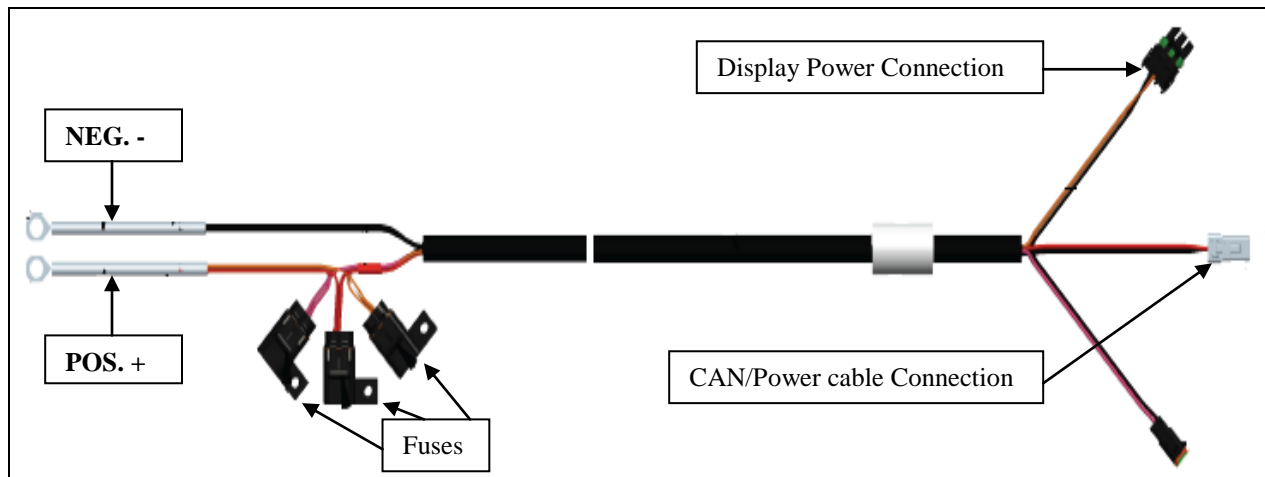
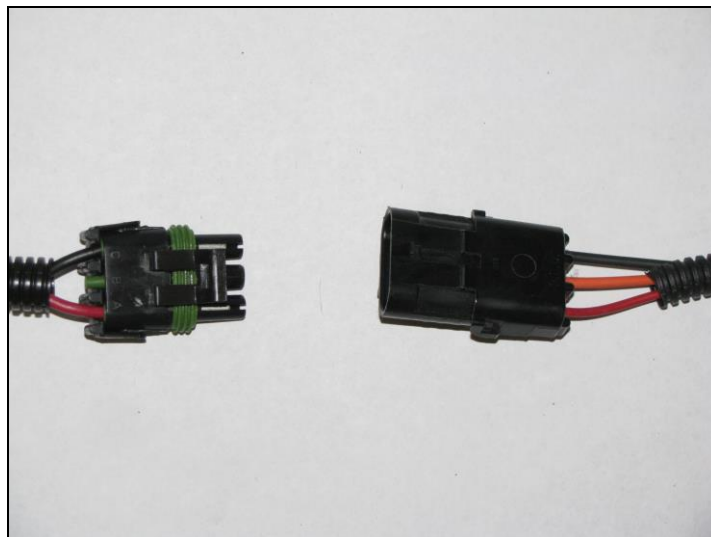

Figure 4. 22ft. power cable
Figure 5. Power cable to display cable
2. Route the cable towards the rear of the tractor cab, and then use the power cable (P/N: 4002016-22) to connect to 12V battery power at power terminals in the cab or at the battery. Insure that the power cable terminals are connected to the appropriate battery connections as shown in Figure 4. Route the cable in a safe and secure location using the provided zip ties.
3. The power cable needs to be able to connect to the display cable at the flat 3 pin connector shown in Figure 5. It also needs to be able to connect with the CAN/power cable (P/N: 4001979-3) at the primary (grey) connector shown in Figure 4.